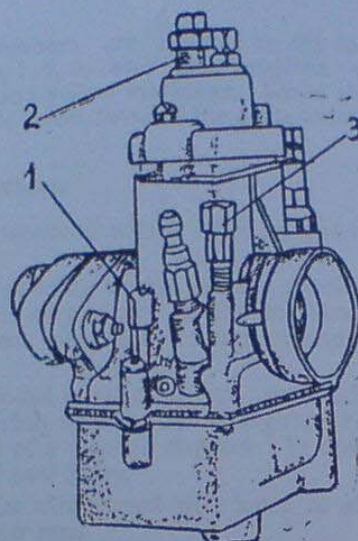

Fig. 9. Carburettor K-65:
Disassembly and cleaning of the carburettor (Fig. 9) should be performed every 7000 kms run or when necessary (if some dirt or water get in it). Fuel mixture may be changed due to the position of the bevel needle relative to the throttle. For this purpose the needle is provided with several grooves which make it possible to control the mixture quality within the limit of 3/4 of throttle lift. Needle lowering causes the leaning of the mixture and its lifting provides enriching. The mixture quality control in idling conditions is performed by quality screw 3 which changes the air inlet into the idling system. Screwing in enriches the fuel mixture and screwing out causes its leaning. Idle stroke revolutions are controlled by screw 2. Its screwing in is intended for engine deceleration and screwing out — for engine acceleration.
4. Bring the crankshaft revolution number to minimum by turning screw 2 (Fig. 9), the throttle cable being completely slacked.
6. Repeat the operations according to items 4 and 5 twice or thrice, set up minimum stable revolutions at idling.
8. After each displacement of the throttle needle it is necessary to adjust the idle revolutions (items 4—6).